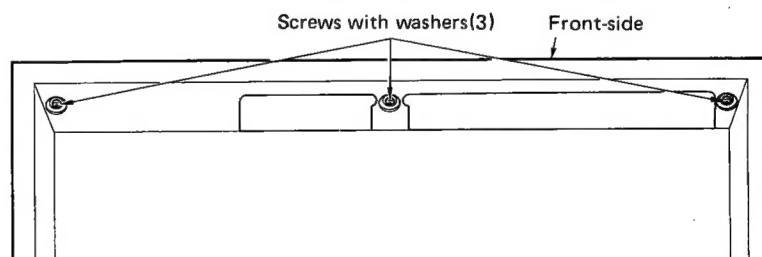

Fig. 1
- 2) Remove the three screws (with washers) shown in Fig. 1.